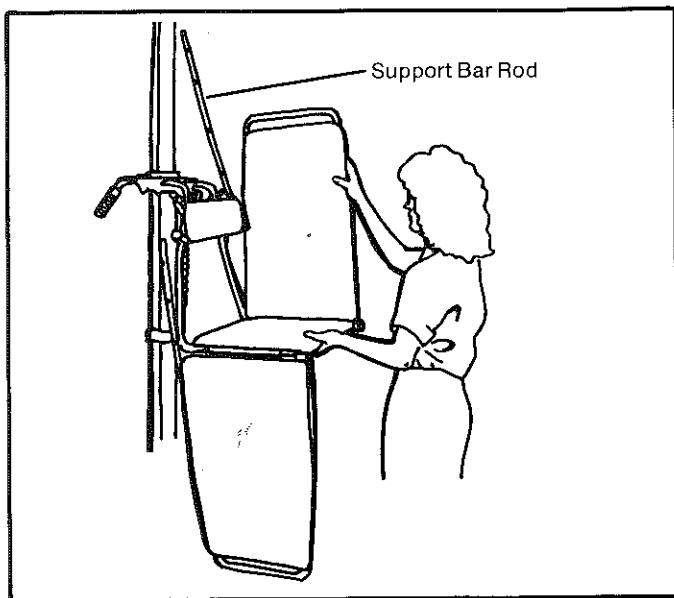

Figure 2-9
3. Take one end pad and bumper frame, with continued support, raise it to a vertical position, Figure 2-9.